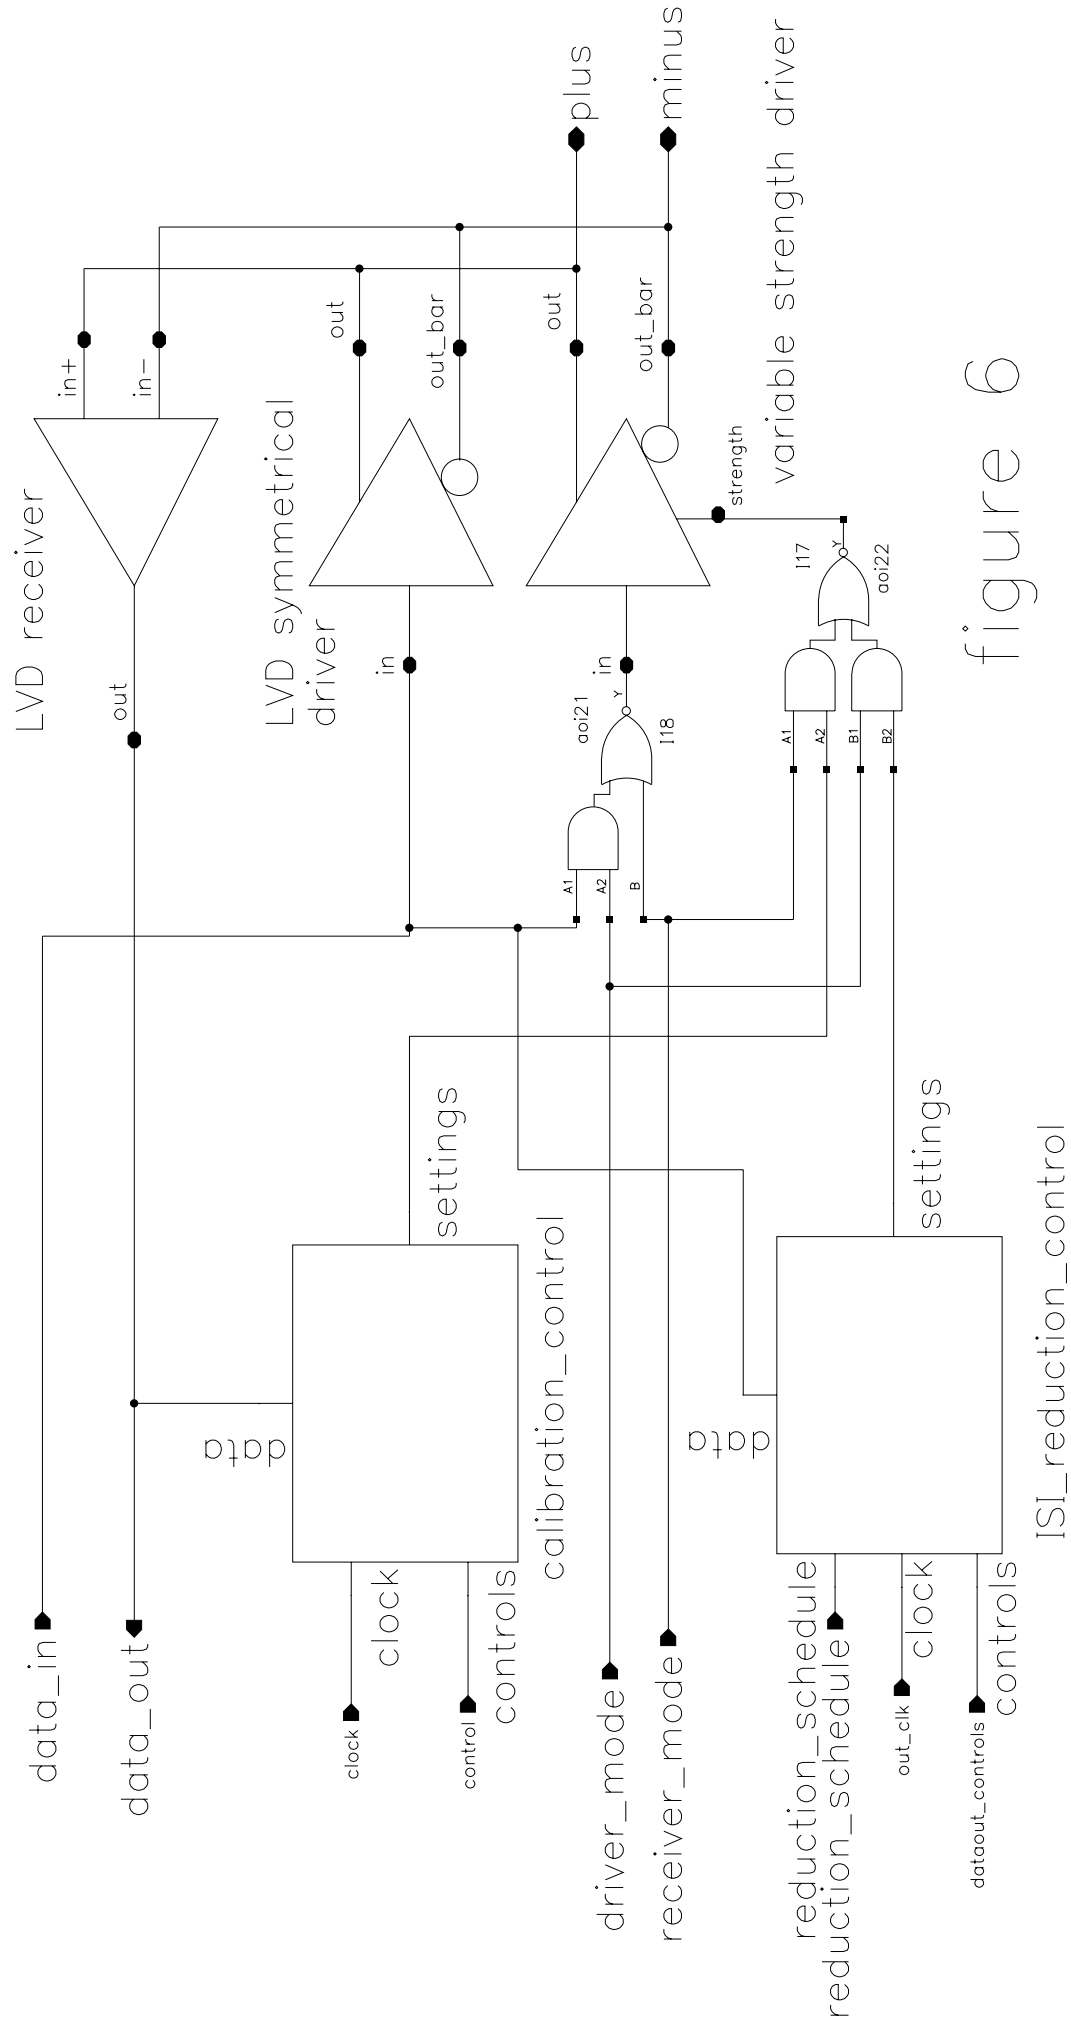

figure 6
- 5.2 A block diagram in figure 6 shows how only 1 D/A driver is needed to do both ISI compensation and bias cancellation auto-zero at the receiver. Using a simple D/A, (variable strength driver) signal offset can be reduced ~75%.